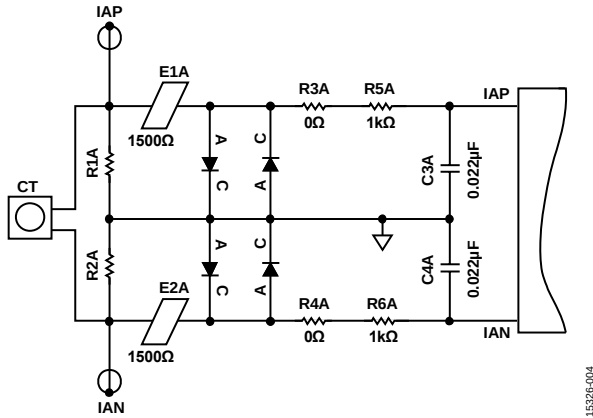

Figure 4. Example of a Current Transformer Connection
Figure 4 shows an example of a current transformer sensor configuration. When using current sense transformers, populate the R1A and R2A burden resistors according to the full-scale current and the current transformer (CT) turns ratio of the application. The CT turns ratio and the burden resistor values must be chosen such that the IAP pin to AGND pin and IAN pin to AGND pin potentials do not exceed ± 0.5 V peak. The C1A and C2A capacitors are not populated when the current transformer is used. An example burden resistor calculation, where the maximum expected current at current transformer primary is 50 A rms, the CT turns ratio is 3000:1, and the secondary current at 50 A is as follows,